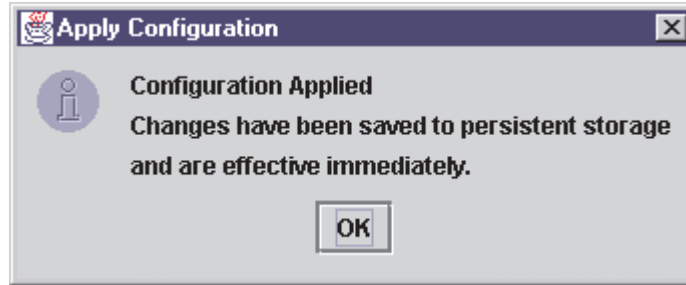

Figure 93. Apply Configuration dialog window
- Click **Apply** to apply the new configuration. The new configuration is saved to the persistent configuration file; it will be used the next time the system is restarted. The new configuration remains in memory and is displayed after the apply operation completes. If configuration is successful, the message shown in Figure 93 on page 231 is displayed. Click **OK**.